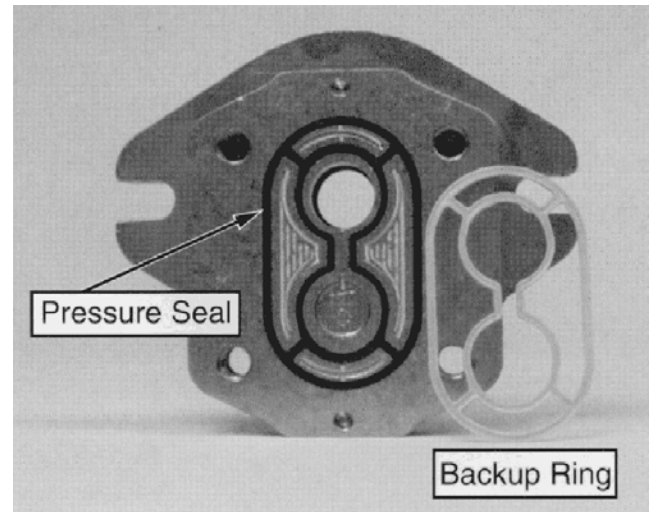

Figure 69
8. Carefully remove and discard o-rings, pressure seals, and back-up rings (Fig. 69) from motor. Do not cause any damage to the machined grooves during the removal process.